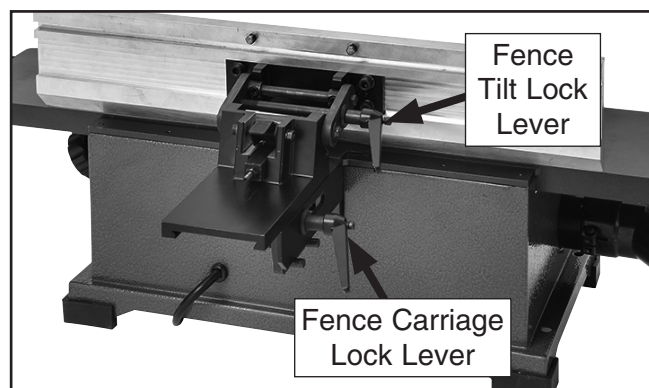

Figure 25. Fence carriage overview.
2. Loosen fence tilt lock (see **Figure 25**), and press limit plate tab forward into limit block rear slot.